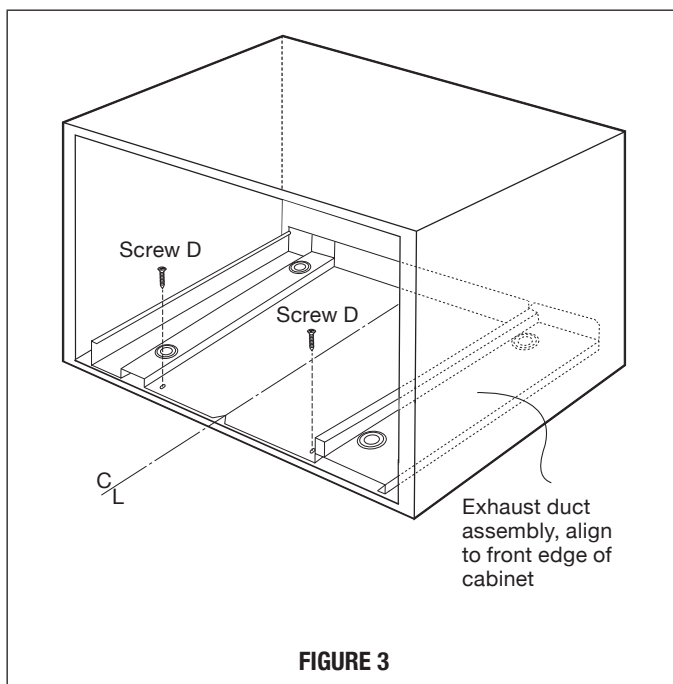

FIGURE 3
- If the dimension of DEPTH (C) is more than 21" (533.4 mm), the outlet location may be any area on the rear wall.
2. Secure the EXHAUST DUCT ASSEMBLY with 2 SCREWS D. See Figure 3.